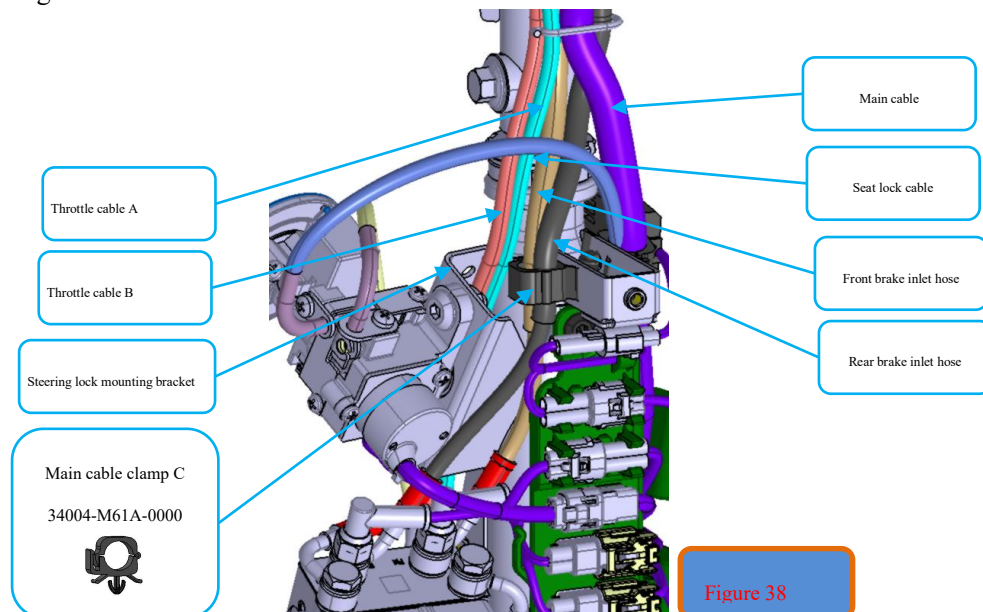

Figure 38
15. Secure the front brake inlet hose and rear brake inlet hose together to the frame with main cable clamp C (34004-M61A-0000), as shown in Figure 38.
16. Route throttle cables A and B through the middle of the steering lock mounting bracket, as shown in Figures 38 and 39.